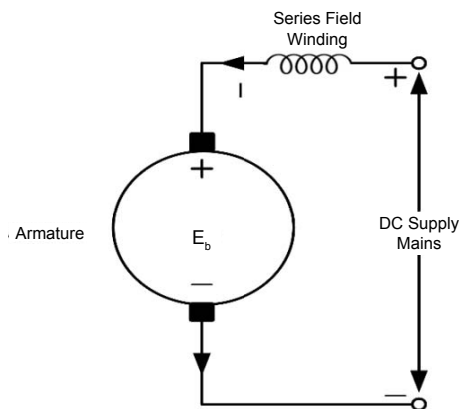

Fig. 6.8: DC series motor
- i. **DC series motor:** A series motor is one in which field winding is connected in series with the armature as shown in Fig. 6.8 that the current drawn by the motor passes through the field winding as well as armature. Field winding has a few turns of thick conductors. Magnetic flux varies with current till saturation.
**i. DC series motor:** The torque equation is given as  $T \propto \Phi I_a$ . For a series motor as shown in Fig. 6.8, the same current flows in the field winding as well as in the armature winding. So, up to magnetic saturation, the field flux  $\Phi \propto I_a$  and therefore the torque developed is